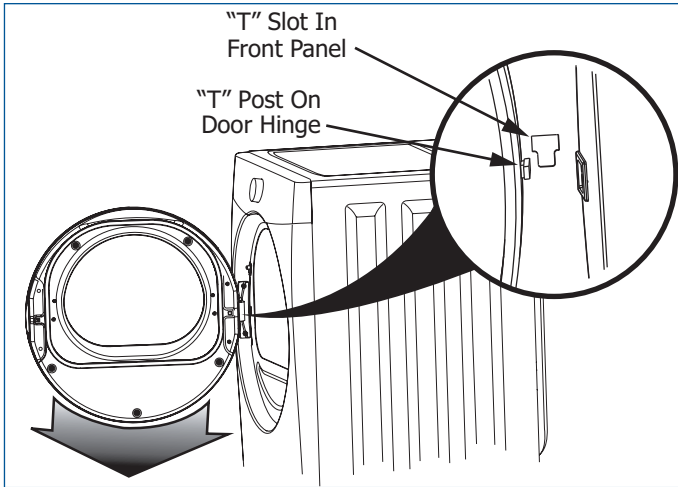

Figure 2-30.
1. Holding the door in both hands, squarely insert the "T" post on the back of the hinge into the "T" slot on the front panel and lower it to align the mounting holes. (See Figure 2-30)